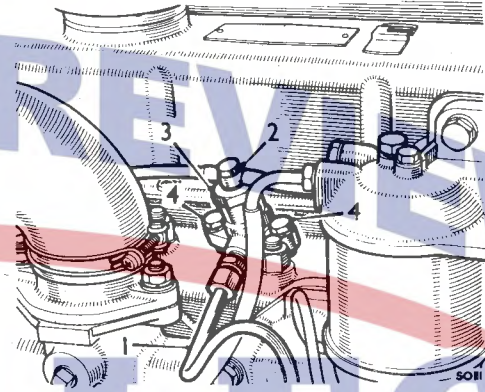

Fig. 49
FUEL INJECTORS: Injector cleaning and spray testing can only be carried out with specialized equipment and this work should be done by your authorized Long Dealer. To remove an injector, disconnect the high pressure pipe (1), and remove the leadoff pipe union (2) from all the injector cap nuts (3). Note the seal washers either side of each banjo. Remove the two injector retaining bolts (4) and withdraw the injector. When refitting an injector, tighten the two retaining bolts evenly to the correct torque figure (12 lb. ft.). Refit the high pressure feed pipe and leakoff pipe. (See Fig. 49).